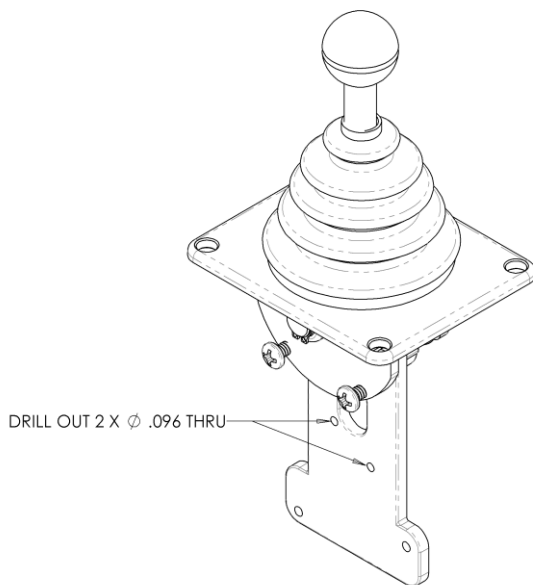

Figure 22: Diagram showing holes to be drilled out for new microswitch bracket
4. Refer to Figure 22, drill out the two threaded holes that were used to secure the old microswitches with a No.41(.096") or 3/32(0.0937") drill bit.